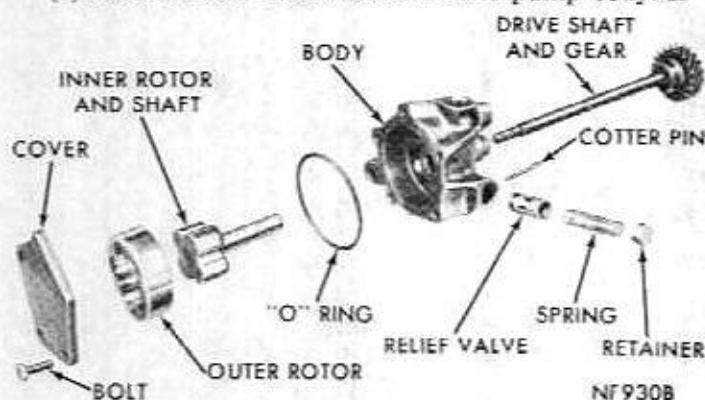

Fig. 46—Oil Pump Assembly (Disassembled View)
(2) Remove oil pump cover bolts and lockwashers, and lift off cover.
(3) Discard oil seal ring.
(4) Remove pump rotor and shaft and remove outer rotor.
(5) Wash all parts in a suitable solvent and inspect carefully for damage or wear. (Fig. 46).